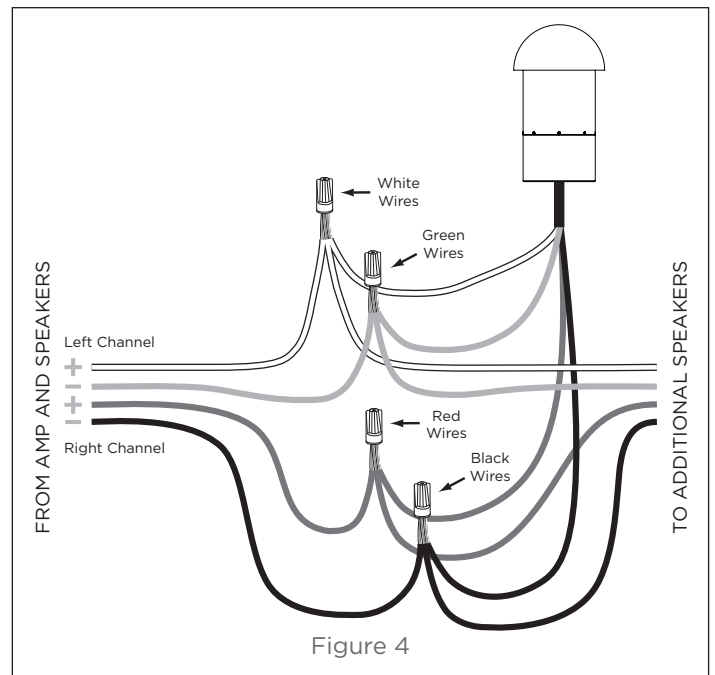

Figure 4
- Take the spool back to the starting point and pull a second 2-conductor wire to the furthest speaker location and repeat steps 1 and 2 (see Figure 4).
The subwoofer features a dual voice coil driver with 4 wires, one pair for each of the amplifier channels. red (+) and black (-) are used for the right channel, white (+) and green (-) for the Left channel. The subwoofer can be connected at any point along the daisy chain e.g. beginning, middle, end or anywhere in-between. However, locating the subwoofer mid-way in the daisy chain will produce an equal amount of bass for the speakers on either side of the sub. The subwoofer needs to be connected in the same manner as the satellite speakers (see Figure 4).